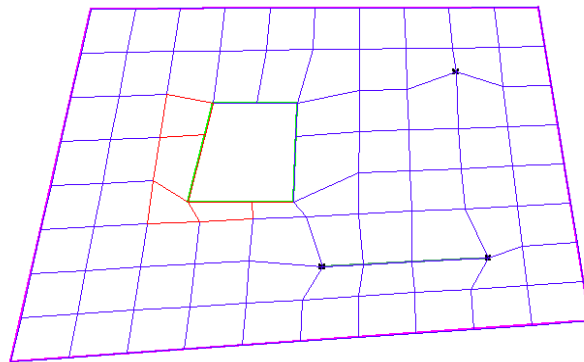

Figure 8.2-12 - Completed Meshing of the Floor
- Using *Snap to End*  edit the common cell nodes next to the end of lines to snap to the line ends (**Fig. 8.2-12**). Then, using *Snap to Nearest* adjust the cells that straddle across the beam or wall line to have their boundary on the line.